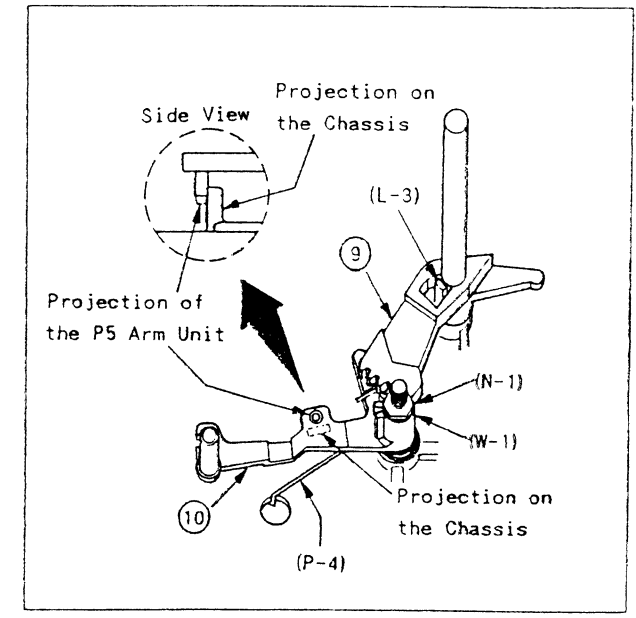

Fig. DM7
3. Install the P5 Arm Unit so that the projection of the P5 Arm Unit is positioned in back of the projection on the chassis, as shown in Fig. DM7.